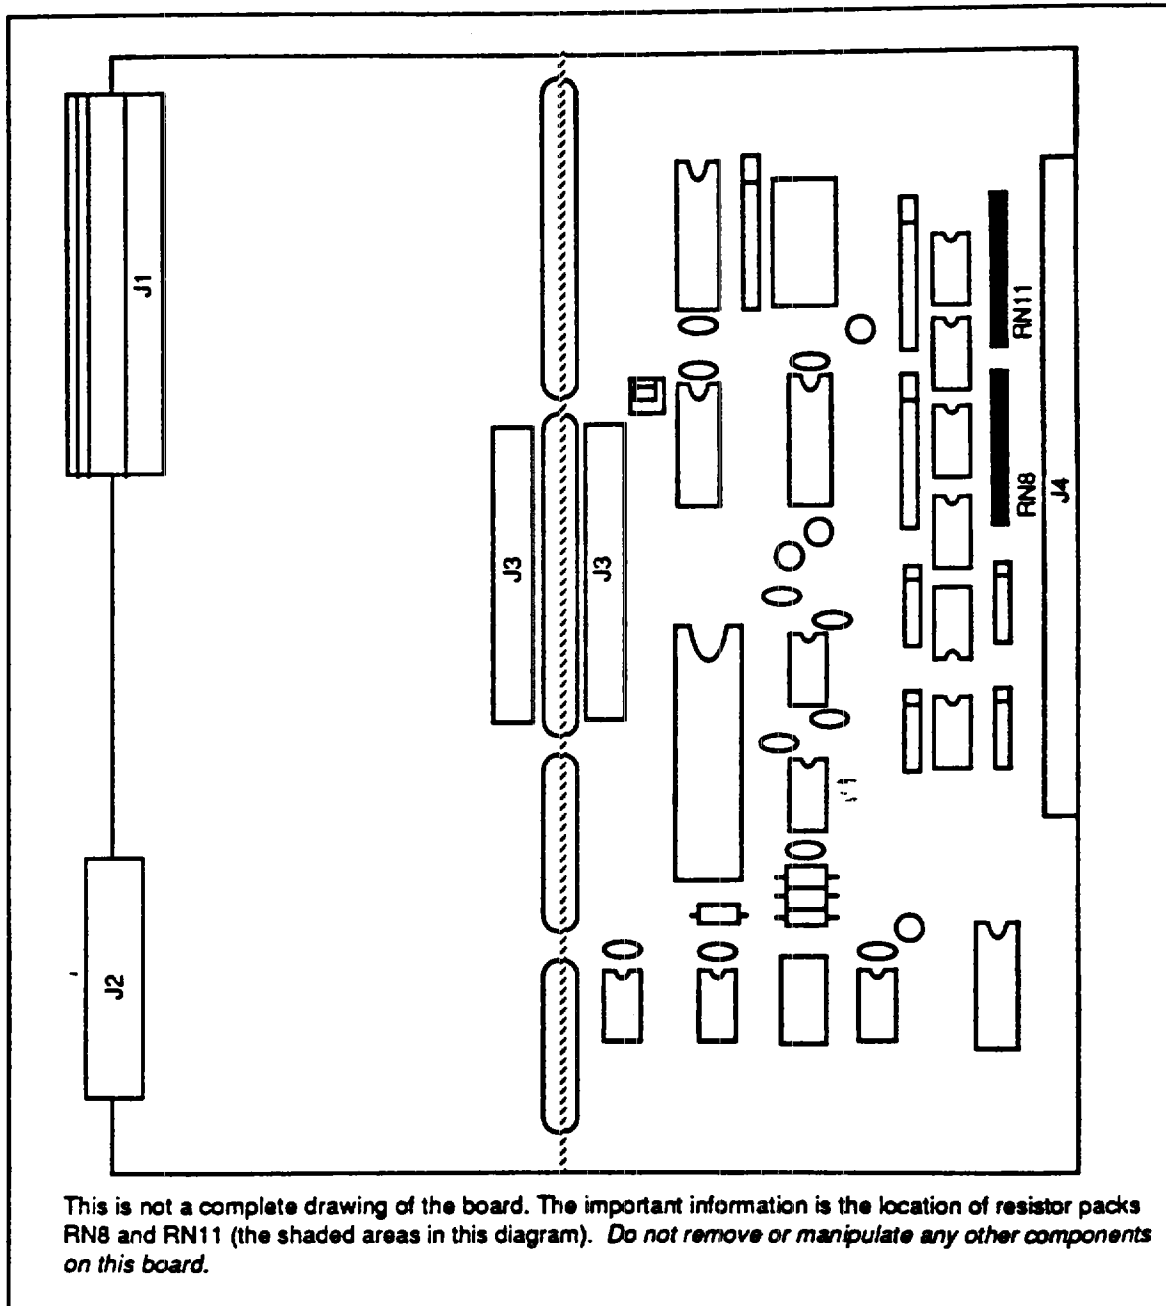

Figure 4-7. Location of RN8 and RN11 Resistor Packs (Decoder Board)
- Step 5** Refer to Figure 4-7 and wire the daisy chain configuration as shown.
- Step 6** Apply power to the three decoders and the computer/terminal. Press the space bar on your keyboard. If the cursor on the screen moves, you are receiving an echo. This indicates that the RS-232C communication link is working properly (from computer/terminal to decoder and from decoder back to computer/terminal). If your cursor does not move when you press the space key, check your wiring connections (refer to Figure 4-7 and repeat this step. If the problem persists, refer to Chapter 7, Maintenance & Troubleshooting.
Before you begin to wire your multiplex configuration, you must remove resistor packs RN8 and RN11 from all but one decoder in the multiplex configuration (the last unit). For example, if you multiplex 5 units, you would remove resistor packs RN8 and RN11 from units 1 - 4 and keep them in unit 5. Removing these resistors prevents the output transistors from saturating due to low impedance. Refer to Figure 4-7 for the location of these resistors.